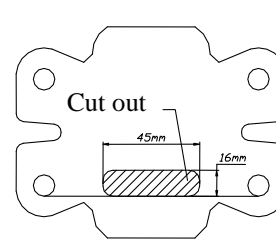

Fig. 2
3. In rear slice make elongated holes according to figure 2.
4. To made holes put jibs with nuts (pos. 4).
5. To chassis members put main bar of the towing hitch (pos. 1) and fix by bolts M10x35mm (pos. 8) with jibs.
6. Through holes (pos. A) and holes in rear slice twist bolts M10x35mm (pos. 8) using big washers (pos. 6).